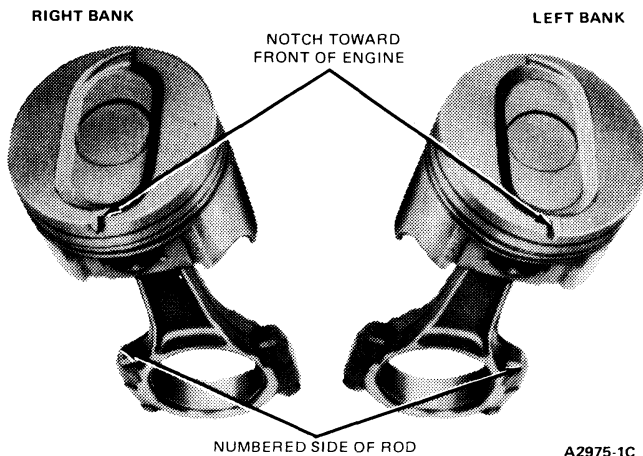

FIG. 41 Correct Piston and Rod Positions
1. Apply a light coat of engine oil to all parts. Assemble the piston to the connecting rod with the cylinder number side of the connecting rod and indentation notch in piston positioned as shown in Fig. 41.